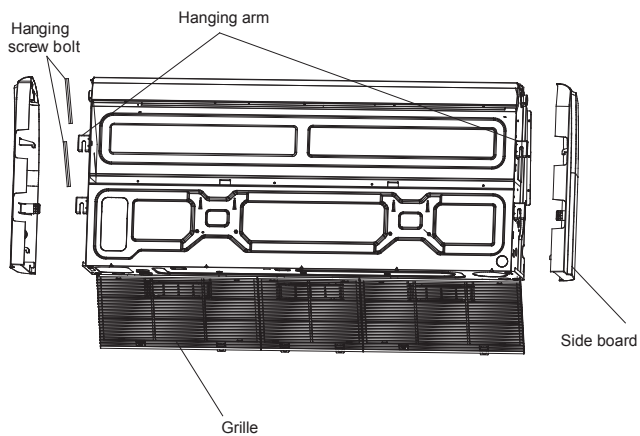

Fig. 5-8
- Remove the side board and the grille. (Refer to Fig. 5-8)